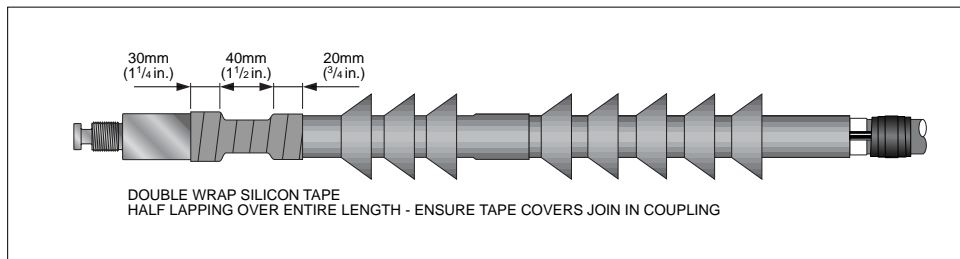

Figure 7
22. Using the roll of silicone tape (grey), overwrap half layers from 20mm (3/4 in.) over the end of the coldshrink to 30mm (1 1/8 in.) over the coupling so that it covers the joint between the main coupling and compression nut. Refer to Figure 7 on page 12.